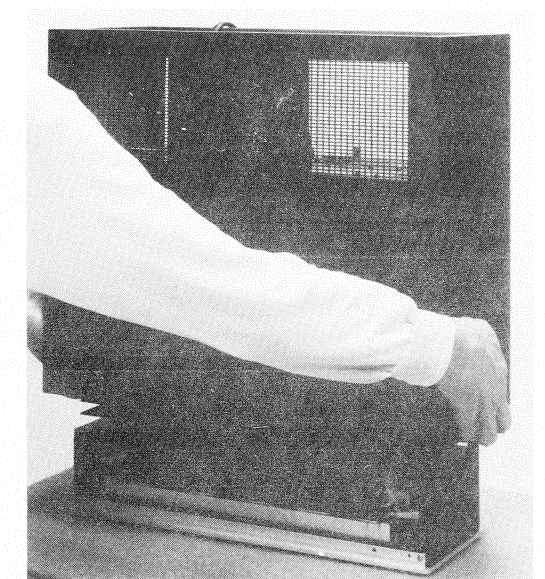

Fig. 2
2. As shown in Fig. 2, put a mat or the like on the table, place the unit with its front downward and take out the cabinet.